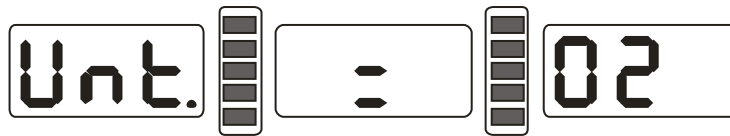

Figure 12-2
12.2 Press b+ or b- key, display ect figure 12-2, denotation currently maund is Oz,